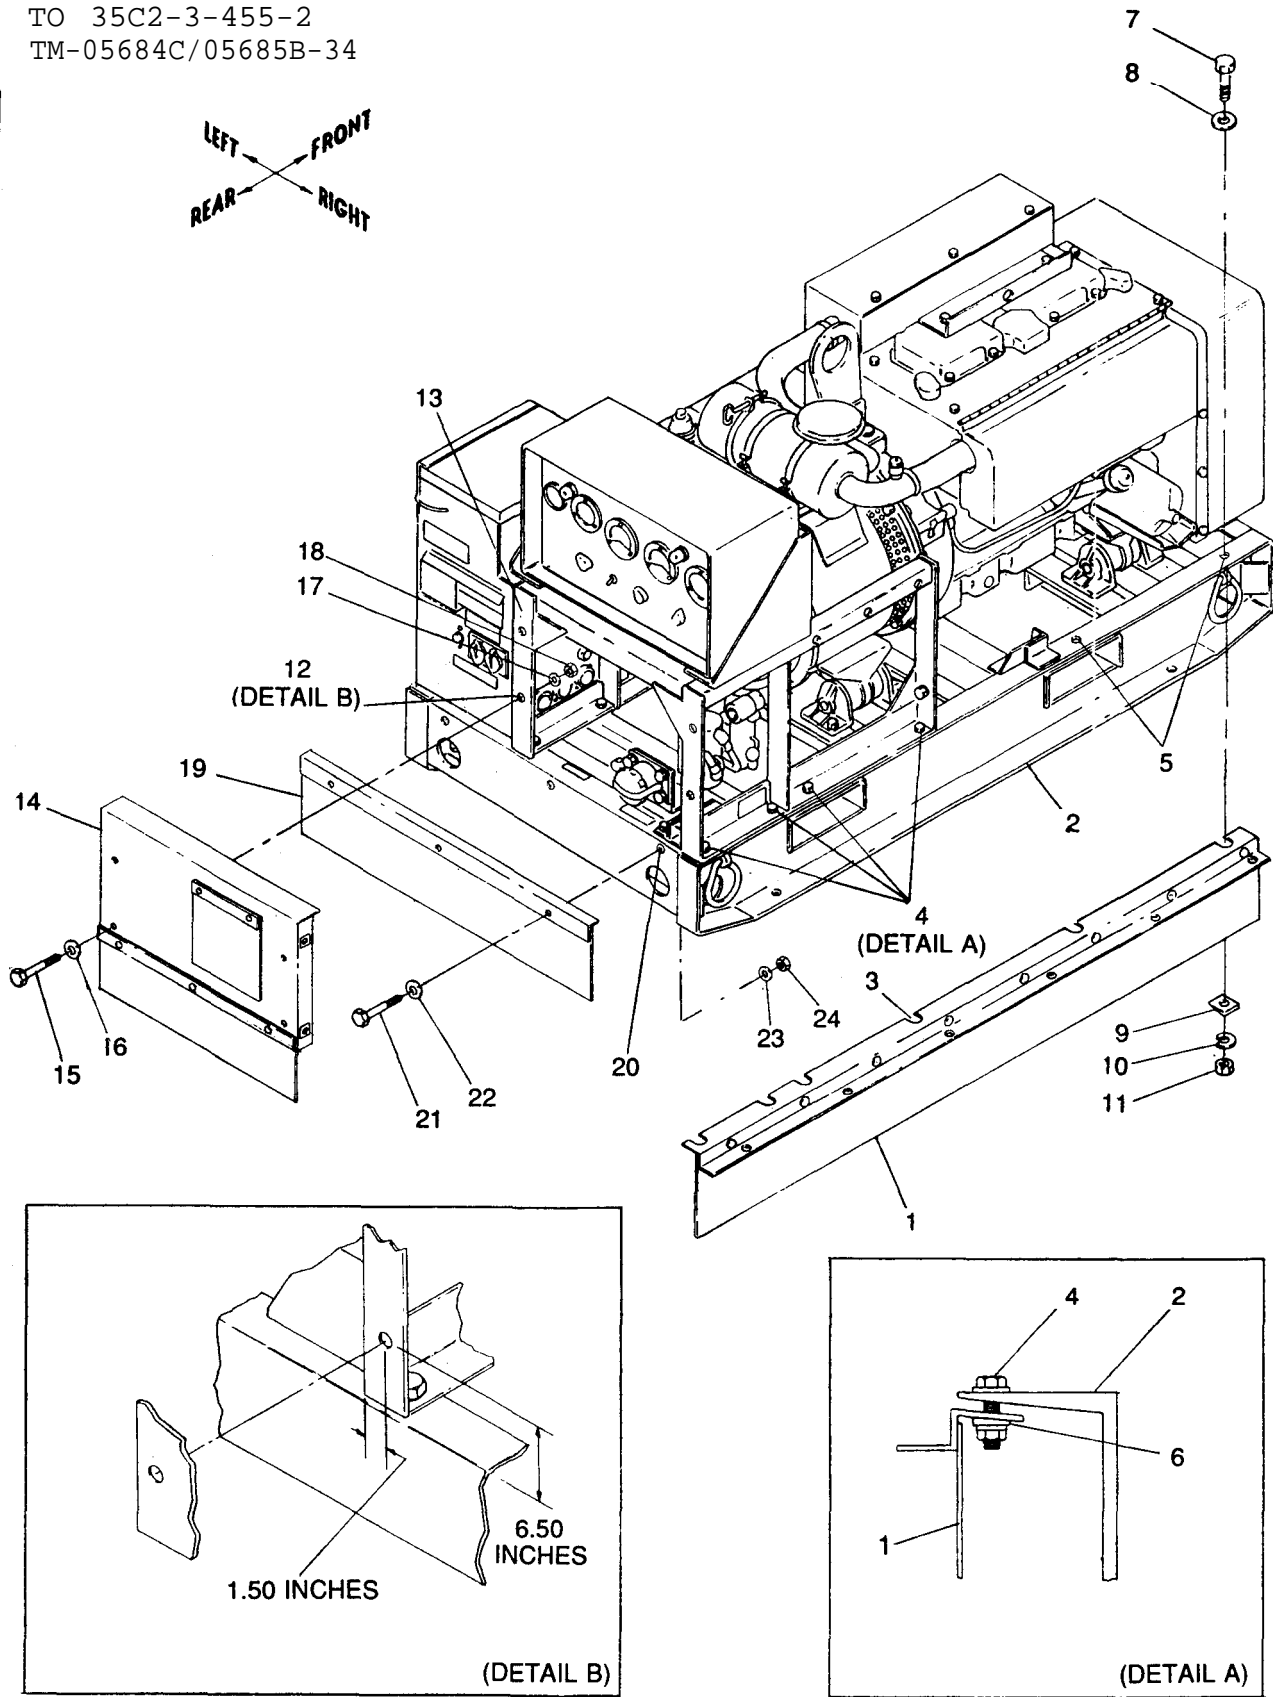

Figure 10-2. Installation of Right Support Assembly, Rear Panel Assembly, and Rear Flap Assembly
- (1) Refer to Operator and Organizational Maintenance Manual paragraph 3-24 and remove engine lifting bracket, shroud and blower housing.
- (2) Refer to figure 10-2 and locate right support assembly (1) on skid (2) . Align slots (3) in support assembly (1) with existing screw heads (4) and using support assembly (1) as template, mark the two additional mounting holes (5) .
- (3) Drill two 7/16 inch holes (5) into skid (2) for right support assembly (1) .
(1) Refer to figure 10-2, detail B and drill one 5/16 inch guide hole (12) in generator set control cubicle support frame (13) at location shown.
(2) Using rear panel assembly (14) as template, align drilled guide hole (12) with bottom left rear panel assembly hole and mark location of three remaining holes in generator set control cubicle support frame (13). Drill three 5/16 inch holes.
(3) Cut a 11 3/4 in. length of adhesive backed teflon tape (as listed in Table 10-1, item 3). Apply adhesive backed teflon tape to a clean right side surface of rear panel assembly (14) (surface with 2 captive nuts). Use hand pressure to remove air bubbles. Clear tape from captive nut openings.
(4) Refer to figure 10-2 to install rear panel assembly (14) to generator set control cubicle support frame (13) with four screws (15), eight washers (16 and 17) and four locknuts (18) (listed in table 10-1, item 3).
(5) Torque screws (15) to 16 ±2 ft-lbs dry.
(1) Refer to figure 10-2 and using rear flap assembly (19) as template, center assembly on skid, resting rear flap assembly angle on top of skid (2). Mark mounting hole locations and drill three 5/16 inch holes (20) into skid (2).
(2) Install "rear flap assembly (19) to skid (2) with three screws (21), six washers (22 and 23) and three locknuts (24) (listed in table 10-1, item 4).
(3) Torque screws (21) to 16 ±2 ft-lbs dry.